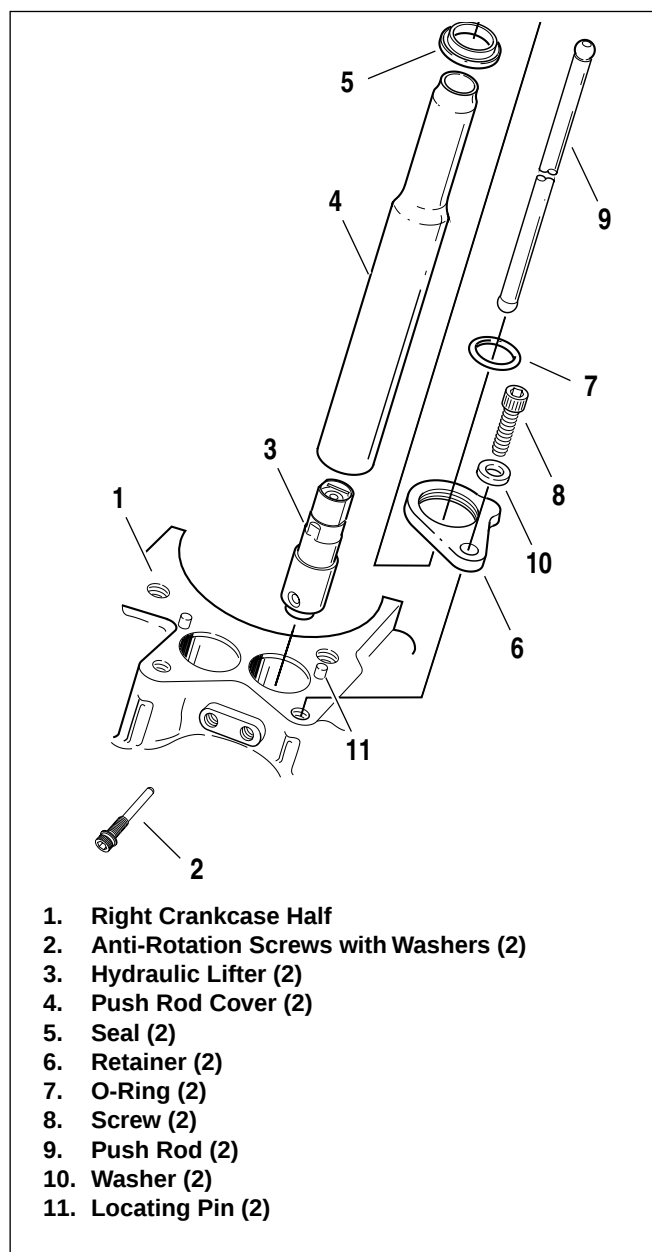

Figure 3-11. Middle Valve Train Components
13. See Figure 3-11. Remove both push rod covers (7) and hydraulic lifters (6). See 3.15 HYDRAULIC LIFTERS.